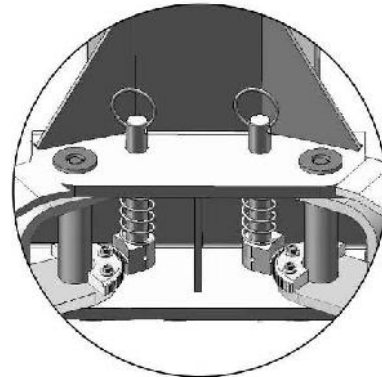

Fig. 33
2. Lower the carriages down to the lowest position and then use the 8# Socket Head Wrench to loosen the Socket Bolt (See Fig. 33).